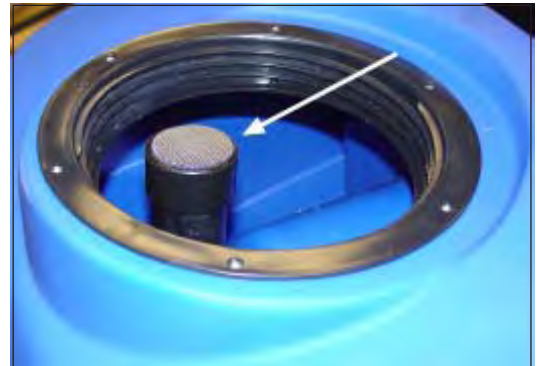

Figure 27
3. Make sure the filter screen (1) to the vacuum motor is clean and installed properly in the recovery tank (see figure 27).